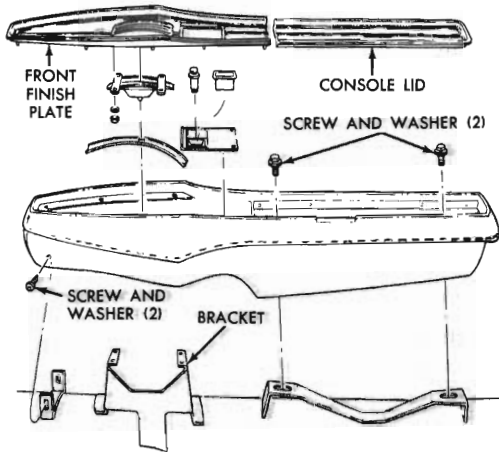

Fig. 19 - Removing or installing console
(3) Remove two screws from front corners of console (Fig. 19). Raise console lid and remove two screws from bottom of tray. Raise console enough to disconnect dial lamp and other electrical connections, then lift off console assembly.